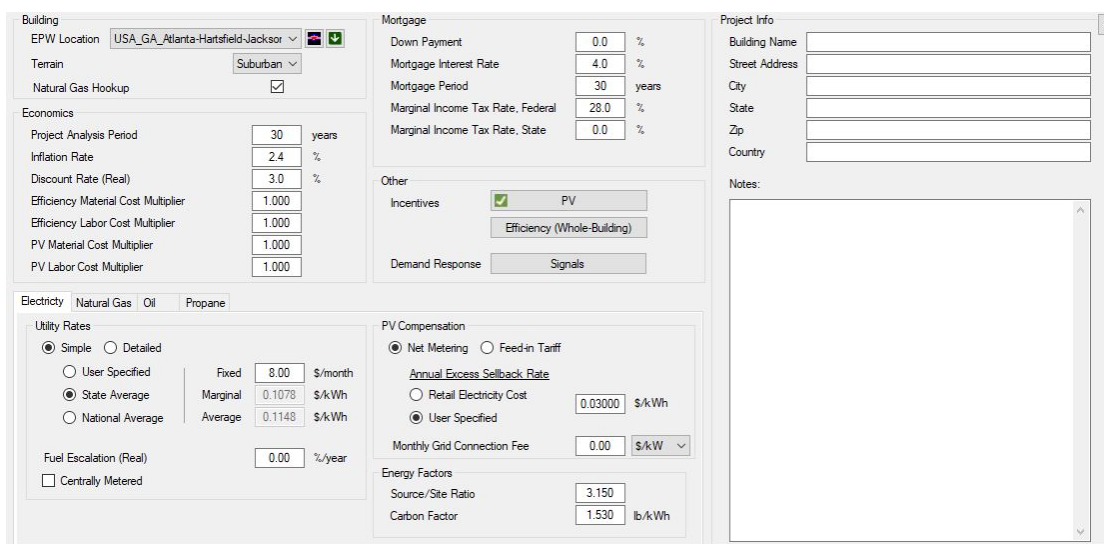

Figure 3: The BEopt Site Screen
- Figure 3 shows the **Site screen**.